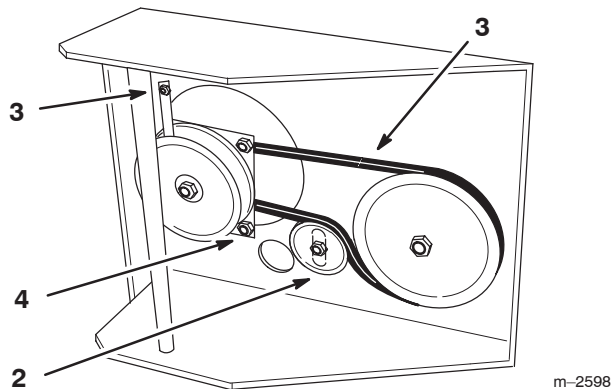

Figure 42
5. Remove the left front engine mounting bolt which secures the clutch retainer to the frame (Fig. 42).
6. Unhook the retainer from the clutch and remove the retainer (Fig. 42).
7. Loosen the idler mounting bolt enough to move the idler pulley and remove the traction belt from the drive pulley and clutch (Fig. 42).
8. Install the new belt around the clutch and drive pulley (Fig. 42).
9. Hook the clutch retainer into the clutch and secure it to frame with the engine mounting bolt (Fig. 42).